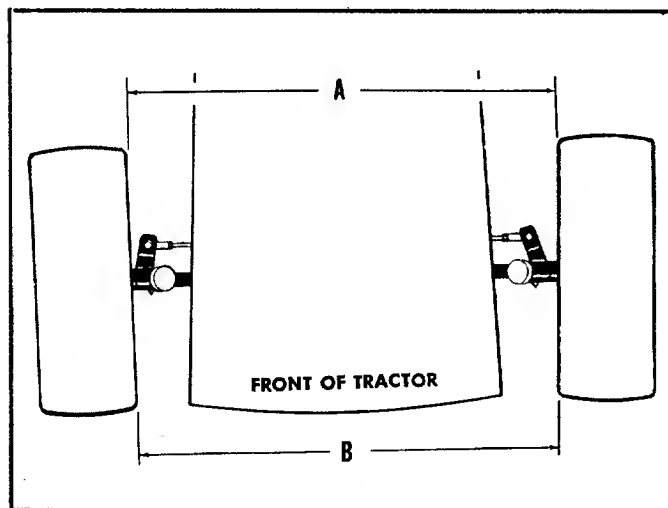

FIGURE 22. TOE-IN DIAGRAM
- Step 3. Adjust the tie rod end in or out to obtain the proper toe-in adjustment as shown in figure 22.